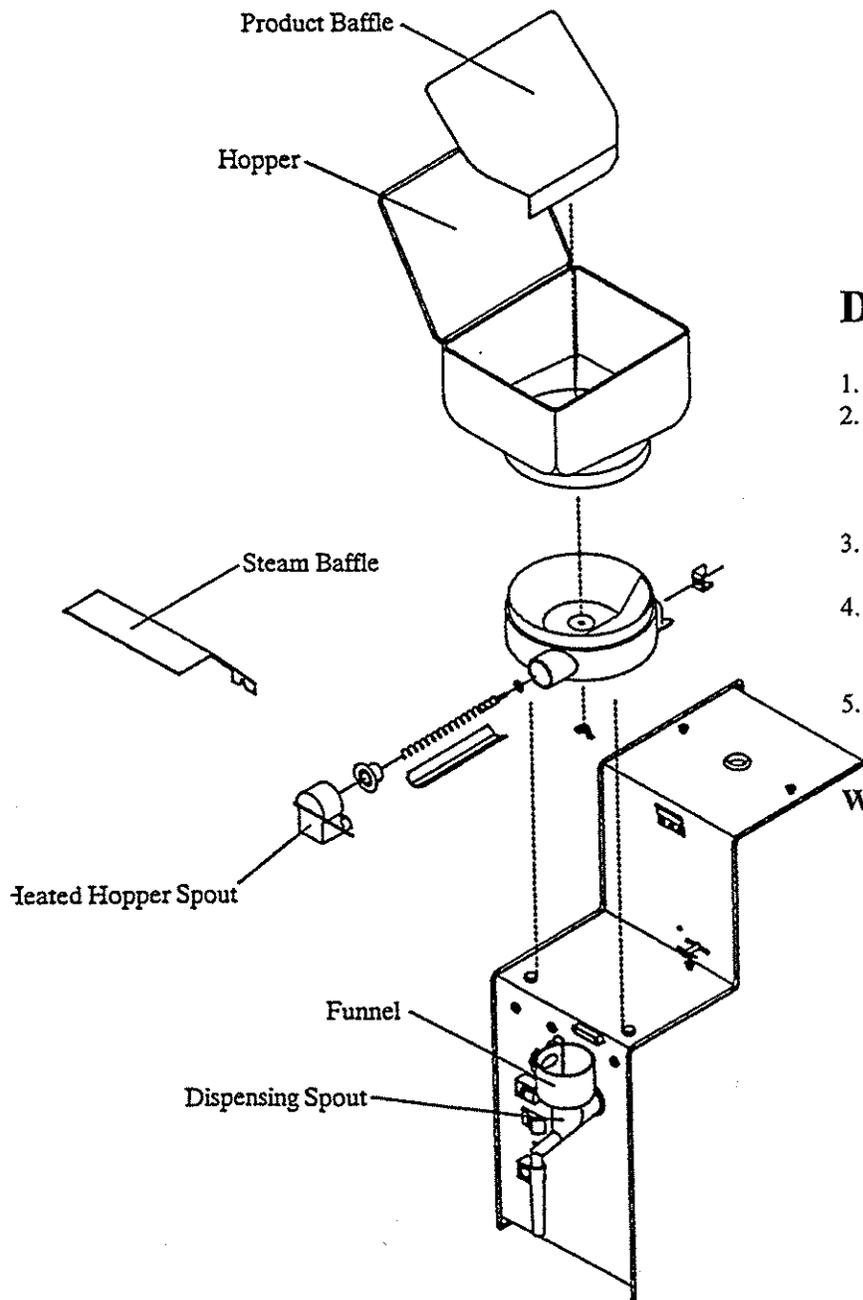

Fig. 5
2. Remove parts as shown in Fig. 5.